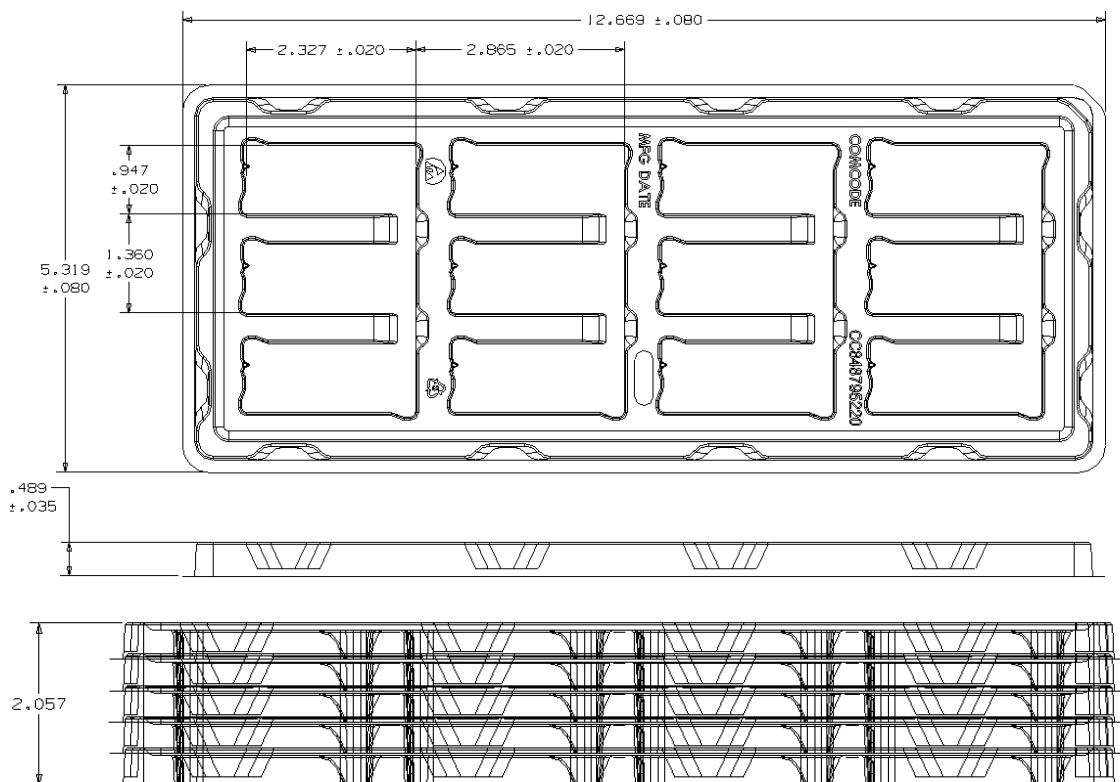

Figure 15. Surface Mount Packaging Tray.
The surface mount versions of the EQW surface mount modules (suffix -S) are supplied as standard in the plastic tray shown in Figure 15. The tray has external dimensions of 135.1mm (W) x 321.8mm (L) x 12.42mm (H) or 5.319in (W) x 12.669in (L) x 0.489in (H).